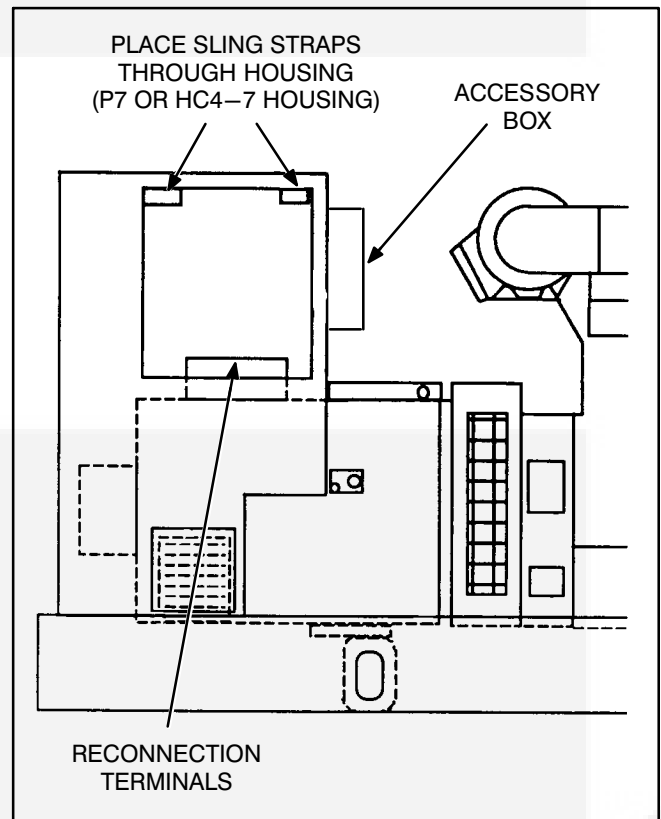

FIGURE 6-9. REMOVING CONTROL HOUSING
3. Disconnect all load wires from the reconnection terminal block assembly (see Figure 6-9). If equipped with the circuit breaker option, disconnect load wires from circuit breaker. Check that all leads are labeled to ease reassembly.
6. Use a hoist or similar lifting device to support the control housing assembly (see Figure 6-9).